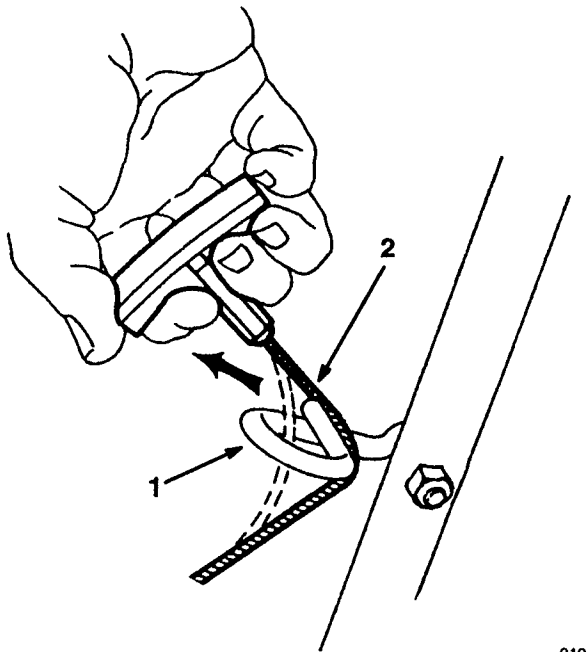

Figure 1
1. Pull the starter rope through the rope guide on the handle. To make the rope easier to loop, squeeze the control bar on the handle to release the blade brake (Fig. 1).